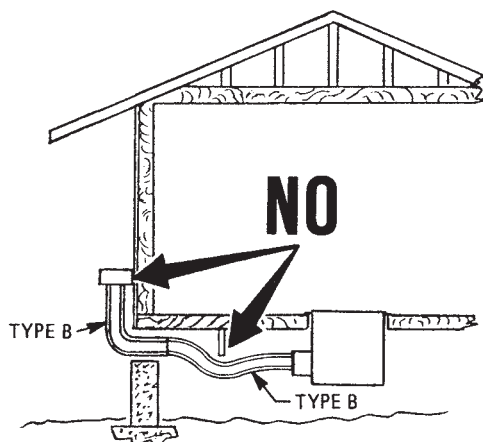

Figure 2
2. Flue pipe **MUST NOT** have any downward sloping sections, dips or sags. See **Figures 2 and 3**.